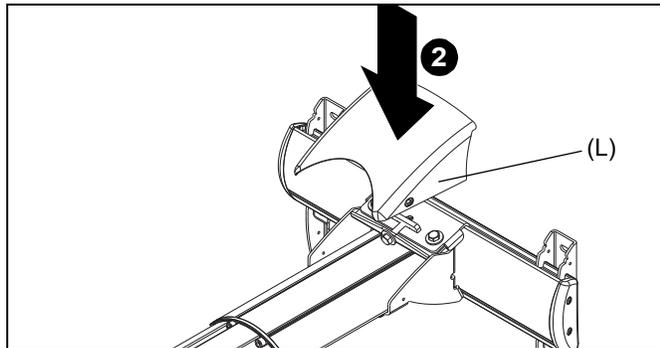

Figure 56
2. Lower the upper cover (L) onto the projector mount. (See Figure 56)